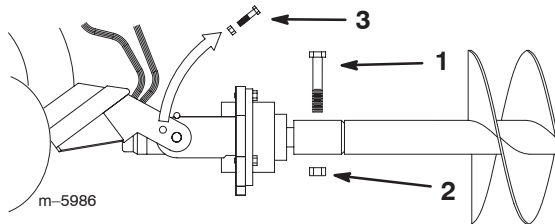

Figure 5
9. Secure the auger to the drive head with a bolt (7/8 x 4-1/2 inch) and nut (7/8 inch) (Fig. 5).
10. Remove the bolts and nuts from the cradle arms that were installed in steps 1 (if applicable) and 4 (Fig. 5).